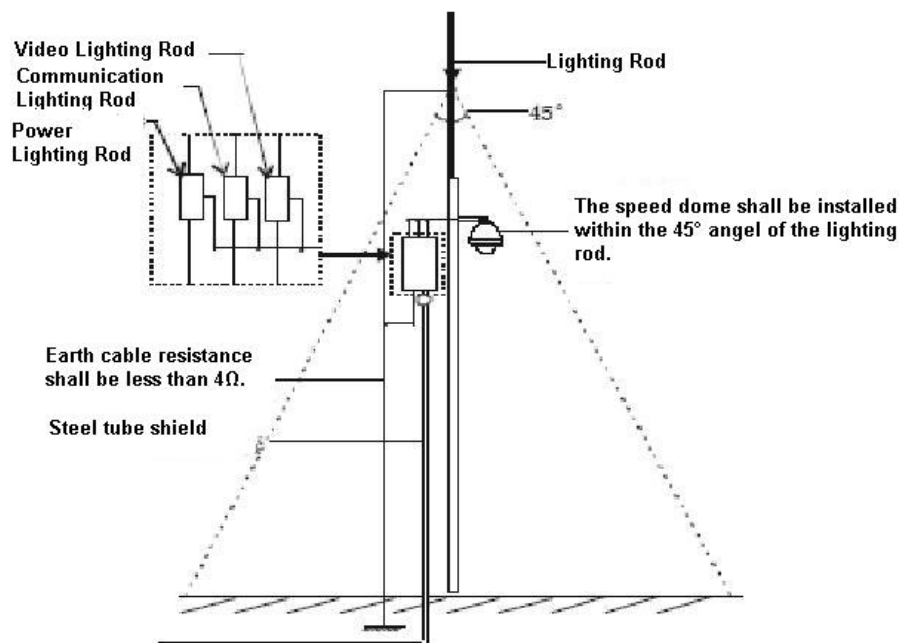

Figure 6-1
- System shall adopt equal-potential wiring. The earth device shall meet anti-jamming and at the same time conforms to your local electrical safety code. The earth device shall not short circuit to N (neutral) line of high voltage power grid or mixed with other wires. When connect the system to the earth alone, the earth resistance shall not be more than  $4\ \Omega$  and earth cable cross-sectional area shall below  $25\ \text{mm}^2$ . See Figure 6-1.